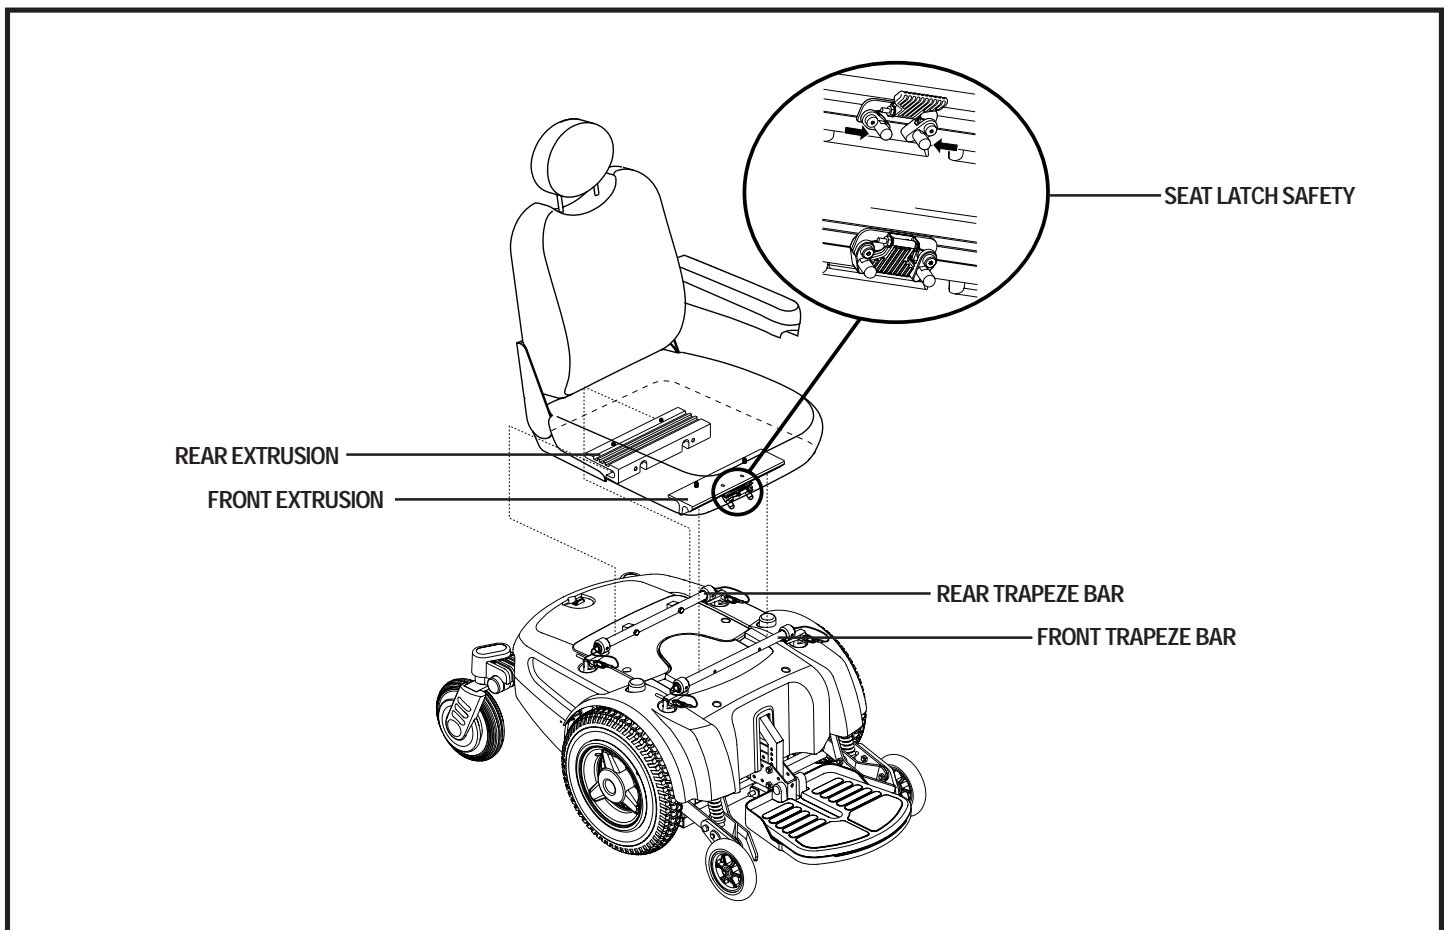

Figure 10. Seat Installation
Most seats are attached to the power base with the Universal Mounting System (UMS). The UMS consists of universal parts that may be attached to any medium-back or high-back seat, regardless of seat width or seat depth. The two main components are aluminum extrusions mounted to the seat base. These extrusions attach to a pair of trapeze bars that are mounted to the power base. See figure 10.
2. Tilt the seat back and slide the rear extrusion onto the rear trapeze bar. See figure 10.